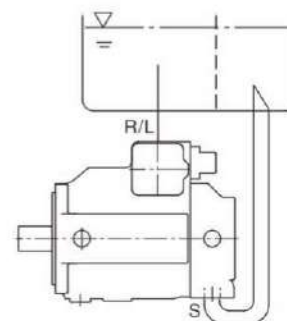

Figure 5
- b) For mounting under the tank, port R/L and S must be connected with pipes, as shown in Figure 5.